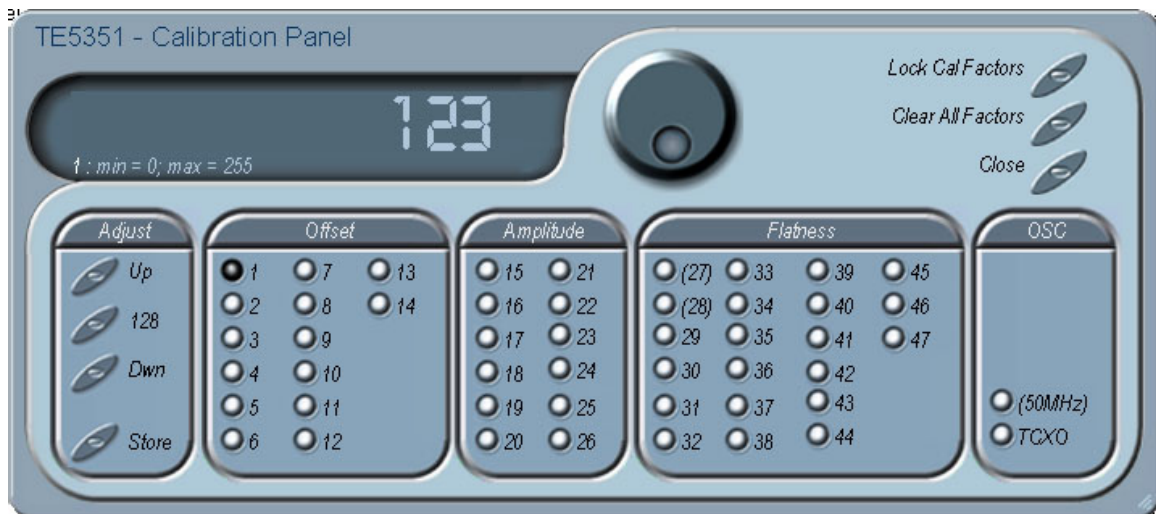

Figure 6-2, Calibration Panel
4. Type your User Name Password and click on OK. The Calibration Panel as shown in Figure 6-2 will appear.